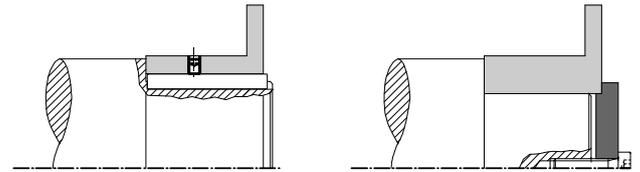

Fig. 6
- ❑ Mount the hubs (1 / 1.4 / 1.5) onto the shafts using a suitable device and secure them axially (Fig. 6). Axial securement takes place using a set screw (adjusting screw), which presses radially onto the key; or via a press cover and a screw, screwed into the shaft threaded centre hole.